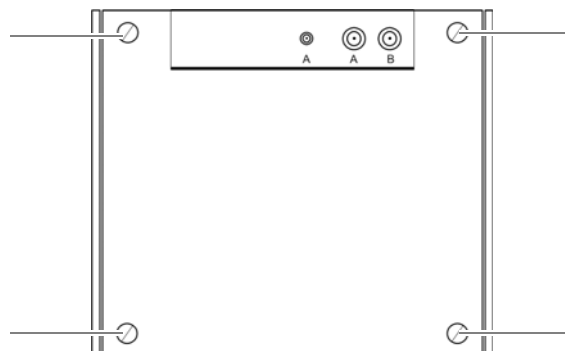

Figure 5.3 Equipment rack top cover - mounting screws
2. Loosen the mounting screws of the equipment rack top cover using a coin, refer to Figure 5.3.